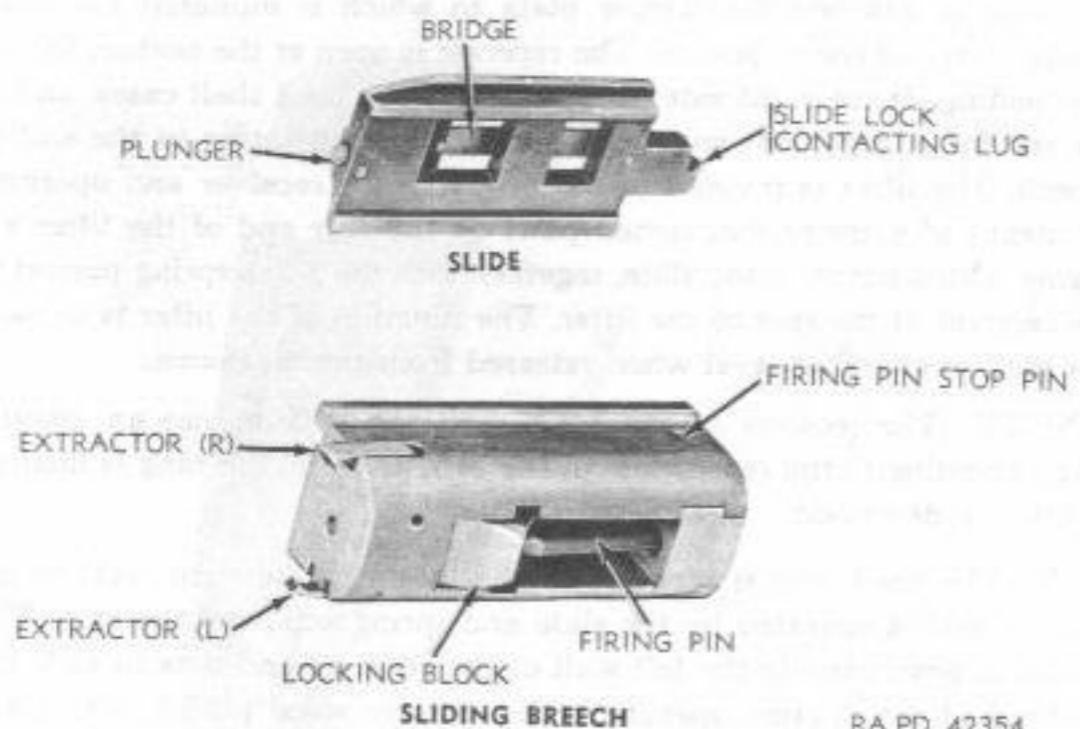

Figure 38—Slide and Sliding Breech—Front, Top and Right Side View—Showing Location of Parts—Stevens Shotgun M620A
(6) The sliding breech (fig. 38) contains the extractors, right and left, the firing pin, and the locking block and their components. The locking block operates in radial grooves cut in the sliding breech and is operated by means of cam lugs on the lower end of the block, functioning with similarly shaped camming apertures in the slide, upon which the sliding breech rests. The slide moves the sliding breech back and forth and cams the locking block up and down in an aperture in the top of the receiver to lock and unlock the sliding breech. The extractors are of the usual claw type functioned by springs. The firing pin passes through the sliding breech and the locking block and is cammed back into the sliding breech on the rearward movement of the slide, by the locking block.
(7) The slide (fig. 38) moves in guideways in the receiver walls and supports, operates, locks, and unlocks the sliding breech, operates the lifter and shell stop, and cams back and cocks the hammer. The slide is in turn operated by the operating handle bar which engages with it by means of a lug on the bar engaging in a mating notch in the slide when assembled. The slide is blocked in the forward (locked) position by the slide lock mounted in the trigger plate. The slide and lock are held in